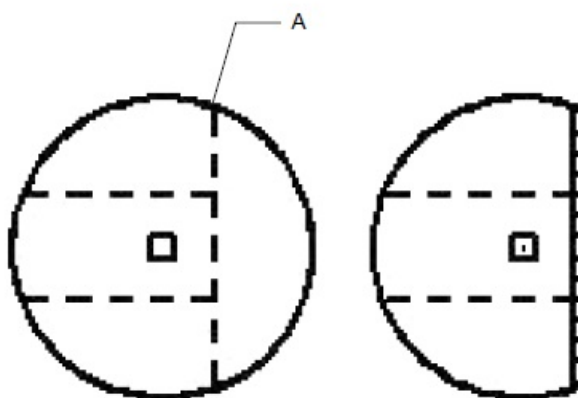

Figure 1
- Both moisture discs (006-4641H) will need to be cut along the serrated line (A) shown on Figure 1. Only cut on the line shown on Figure 1, do not cut the other line.